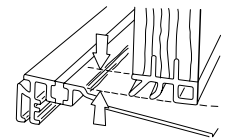

Fig. 9
8. Make sure the door sweep contacts the threshold evenly. You can adjust the threshold contact by adjusting the squareness of the door unit or, if an adjustable threshold is used, by turning the adjustment screws on the threshold (Fig. 9).